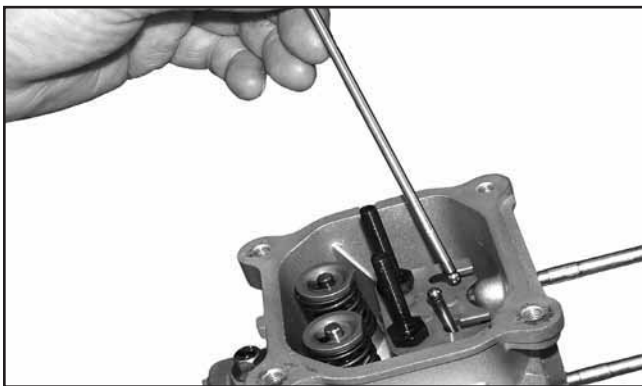

Figure 10-20. Installing Push Rods.
3. Install the push rods into the intake and exhaust positions, as previously marked. See Figure 10-20.